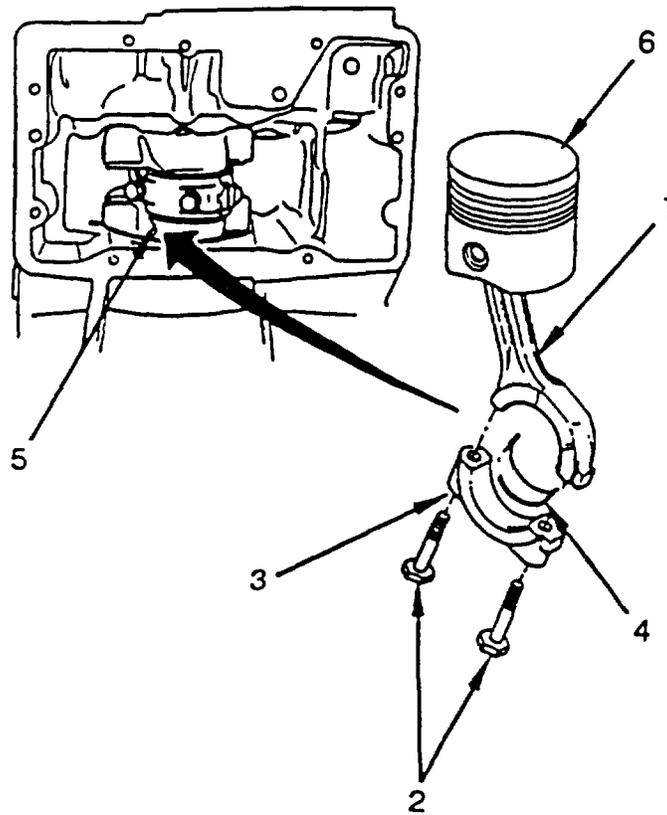

Figure 6-2. Cylinder, Piston, and Connecting Rod Assembly (Sheet 1 of 4)
a. Disassembly. (Refer to Figure 6-2, Sheet 1 of 4 and 2 of 4).
**Note the position of connecting rod (1) components. Mating surfaces of rod (1) are numbered for identification.**
- (1) Remove two screws (2), connecting rod end cap (3), and bearing (4) from crankshaft (5).
- (2) Turn crankshaft (5) to set piston (6) at top dead center (TDC).
- (3) Lift off cylinder barrel (7) with piston and rod. Remove shims (4) and set aside for later assembly and for bumping clearance adjustment.
- (4) Remove piston (6) and rod (1) from cylinder barrel (7).
- (5) Remove two snap rings (5), wrist pin (11), and rod (1) from piston (6).
- (6) Remove upper rod bearing (7) from rod (1).
- (7) Remove rings (8) from piston (6).